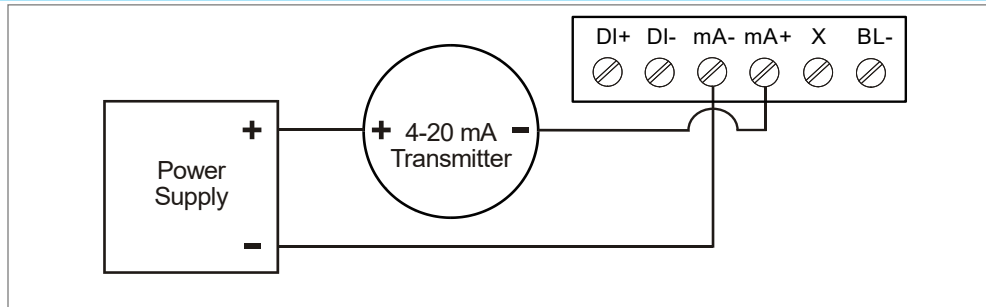

Fig 7: 4-20mA Input Connection without Backlight
- Please use a standard 1/8 DIN panel cut-out – 3 3/4" x 1 3/4" (92mm x 45mm), as shown in figure 7.